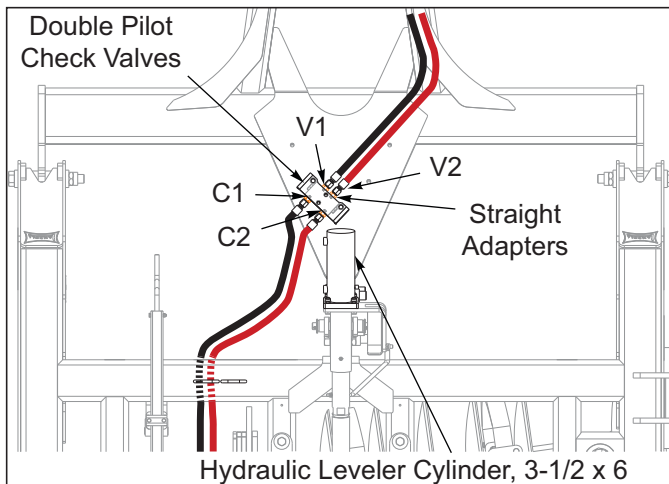
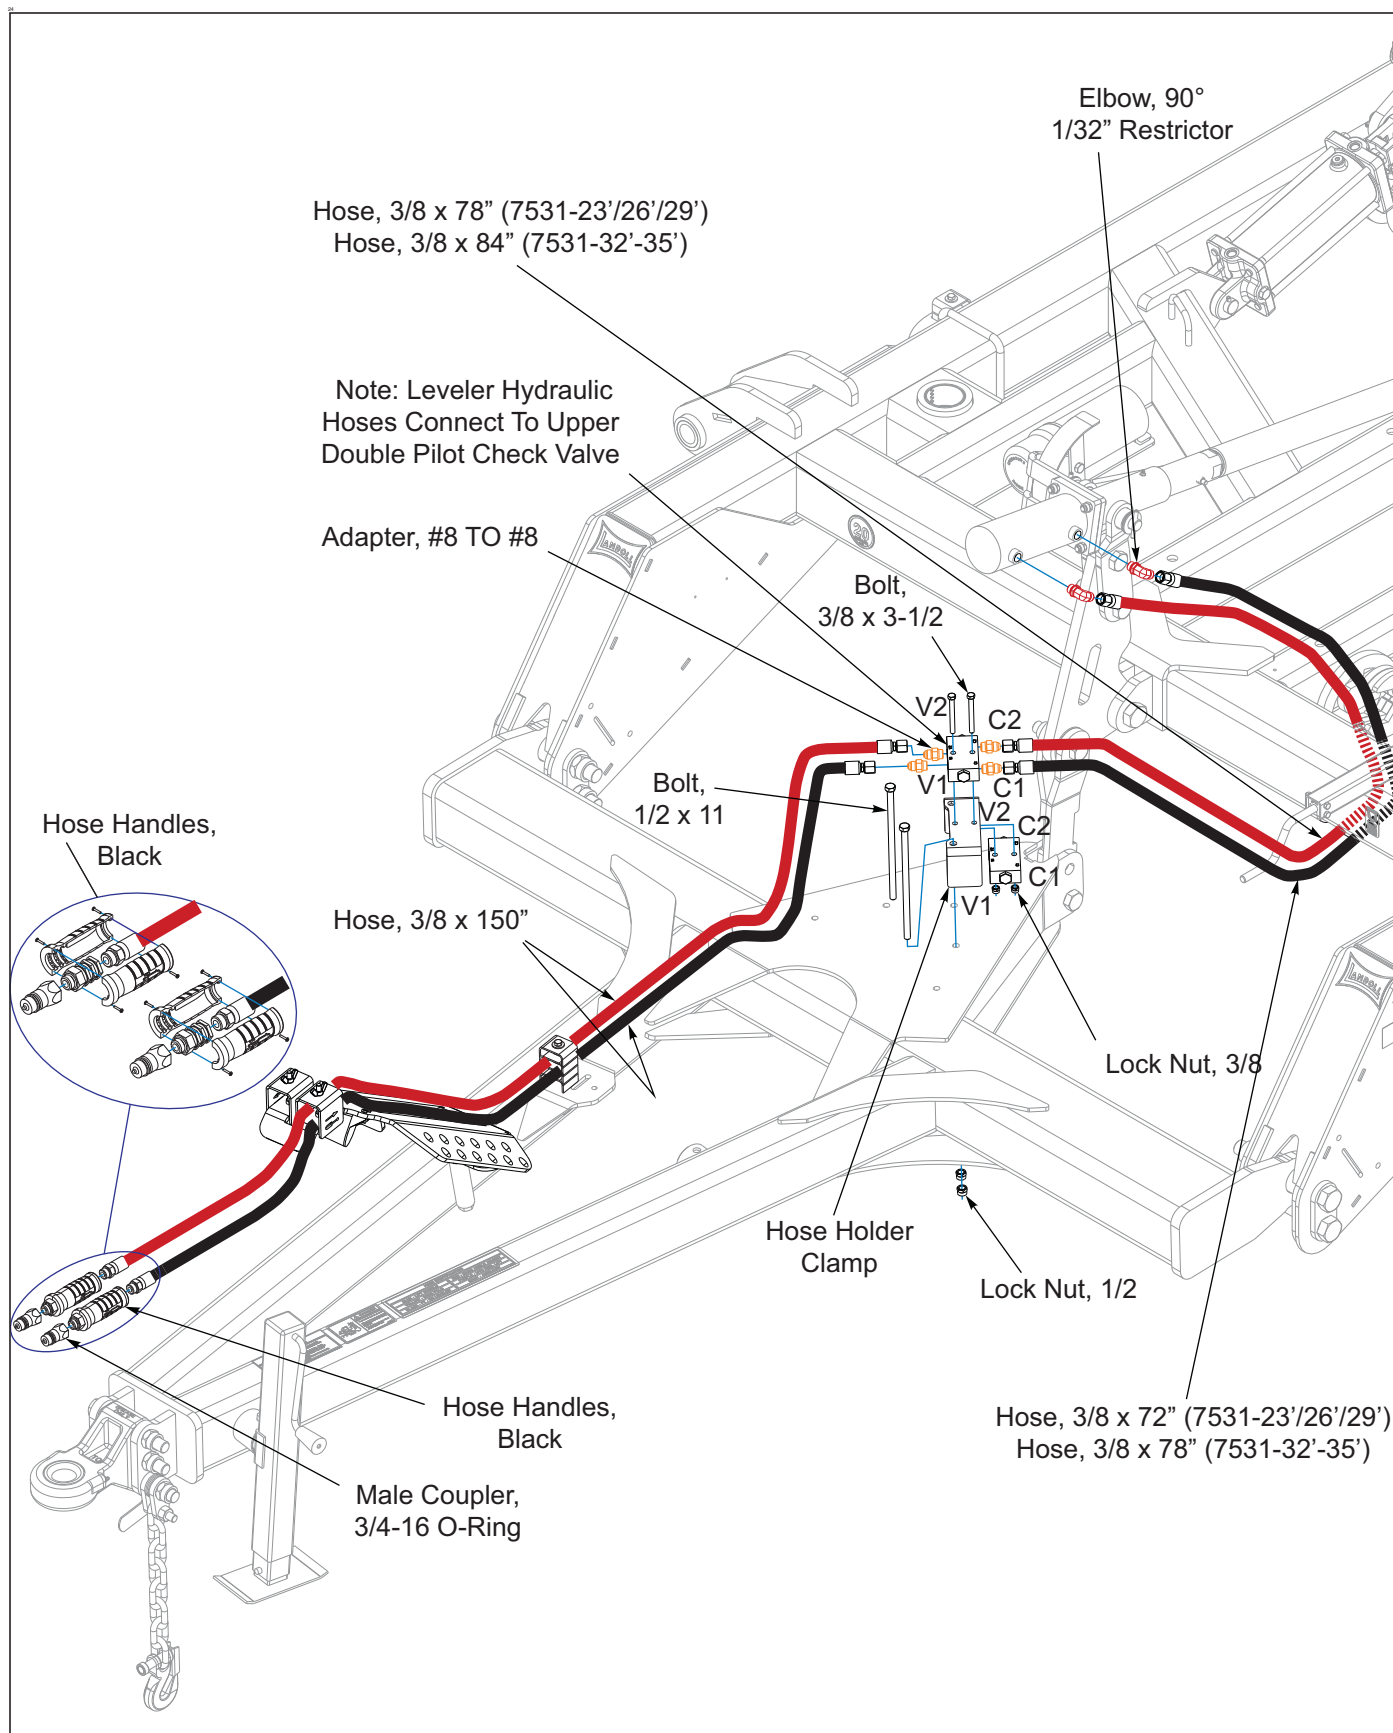

Figure 3-6: Check Valve Placement
Figure 3-35: Leveler Hydraulic Installation
2. At the rear of the hitch **See Figure 3-6** there will be two identical valves installed (Double Pilot Operated Check Valves) with 3/8 x 3-1/2" bolts and nuts onto the hose clamp. Install these valves with the V1/V2 ports facing the tractor and the C1/C2 Ports facing the rear. Install straight o-ring adapter fittings into each of the 8 outlets. When plumbing the hydraulic disc gangs or the leveler it does not matter which hose goes to C1/C2 or V1/V2, leveler hydraulics **upper valve, See Figure 3-42** or gang hydraulics **lower valve, See Figure 3-35 7531-23'/26'/29'/32'/35'**), just so they are facing the correct direction and hooked to the cylinder or the tractor correctly.
8. Install Leveler cylinder hoses, couplers and black hose handles **See Figure 3-35**.